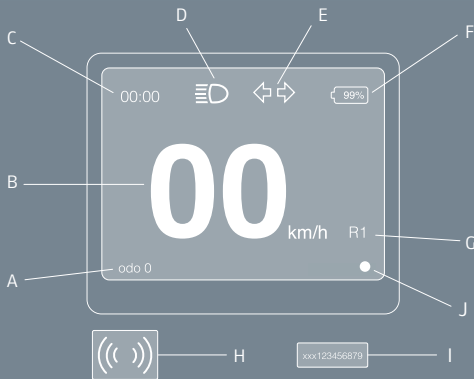

Fig. 9
The speedometer unit, (B) in Fig. 9, is factory preset, depending on in which country the vehicle is sold. Contact ridecake.com/en/service-support/ to change it.
When the side-stand is down, the vehicle is automatically deactivated. This is indicated by a white dot on the display, (J) in Fig. 9. The side-stand is located on the left-hand side of the vehicle.
The code, (I) in Fig. 9, is an error code that can be interpreted in the CAKE app. Most errors indicated by such a code must be solved by CAKE.
The clock on the display, (C) in Fig. 9, is autonomous and taken from the bike's GPS position.
The vehicle has two ride modes, (G) in Fig. 9.